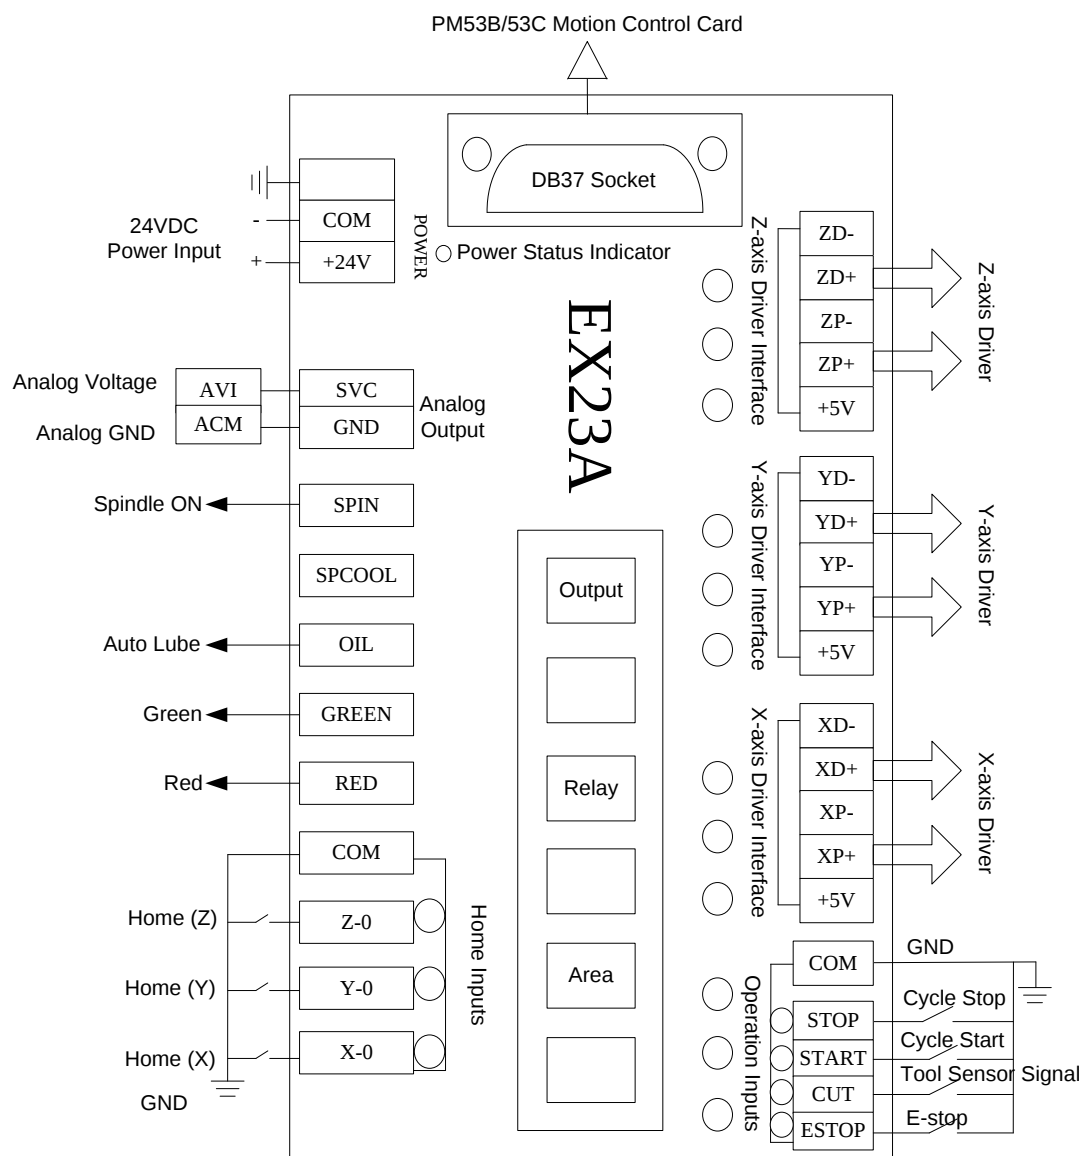

Fig. 3-7 Wiring Diagram of Terminal Board EX23A2
- See Fig. 3-7 for the wiring diagram of the terminal board EX23A2 (154mm*72mm), for standard XYZ axes configuration for engraving machines.